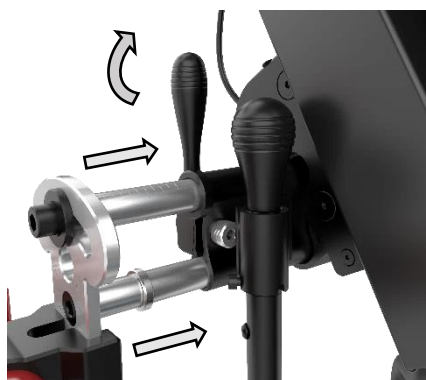

Figure 25. Assembling the Clamp Assembly to the Width Adjustment Assembly
- Insert the two Width Adjusting Rods into the two receiving holes. The QR Lock Levers must be down and loose to receive the Manual Clamp Mechanism. Once the width is established, the Lever is locked upright (see Figure 25).